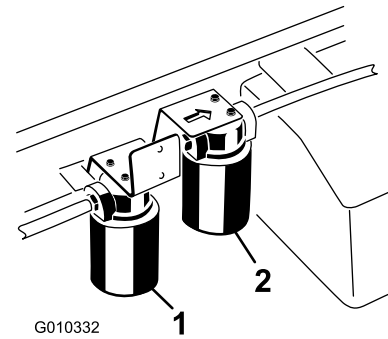

Figure 70
2. Clean the area around filter mounting area. Place a drain pan under the filter and remove the filter (Figure 70).
1. Clean the area around the high flow filter mounting area (Figure 70). Place a drain pan under the filter and remove the filter.